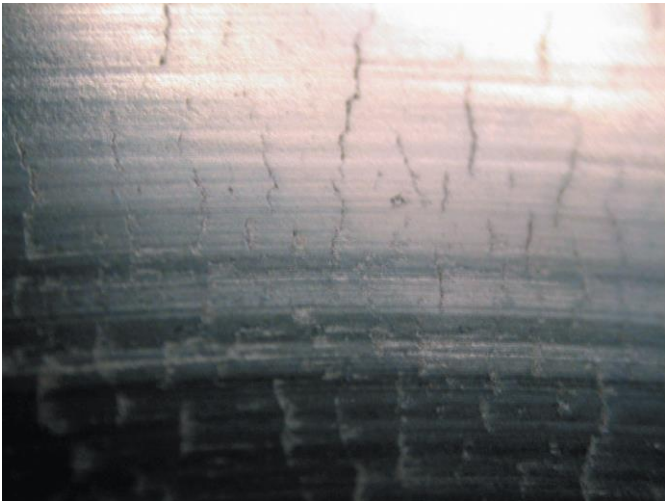

Figure 10. A drum with heat checking must be replaced.
- A lesser form of drum and rotor cracking is called heat checking, which consists of many small, interlaced cracks on the friction surface. Figure 10.